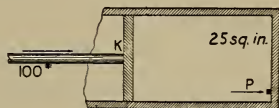

FIGURE 287. — MEANING OF THE TERM "PRESSURE."
**308. Pressure.**—Figure 287 shows a cylinder with water in it, and a piston (K) being forced against the water with a force of 100 lb.
has an area of 25 sq. in., this 100 lb. will be distributed over the total 25 sq. in. Thus each square inch will receive  $\frac{100}{25} = 4$  lb. ( $P$ , Figure 287.)
**309. Pascal's Law.**—In Figure 287 the water would press not only on the *end* of the cylinder, but also on the *sides*; that is, every square inch of surface would also have a force of 4 lb.; or, as we say, the pressure would be 4 lb. *per square inch*.